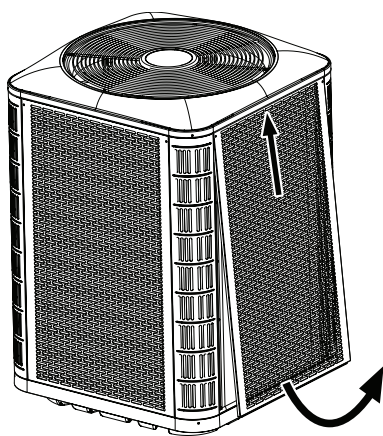

Figure 6. Panel Removal
2. Slide the panel up towards the top pan in order to clear the bottom flange from the base pan. See Figure 6 \(page 8\).